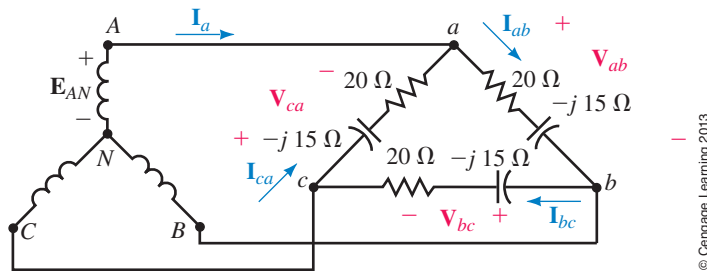

FIGURE 24–48 Balanced system.
12. For the circuit of Figure 24–48, if $\mathbf{I}_a = 41.0 \text{ A} \angle -46.7^\circ$, find all the phase currents.
13. For the circuit of Figure 24–48, if $\mathbf{I}_{ab} = 10 \text{ A} \angle -21^\circ$, determine all the line voltages.
14. For the circuit of Figure 24–48, if line current $\mathbf{I}_a = 11.0 \text{ A} \angle 30^\circ$, find all the phase voltages.